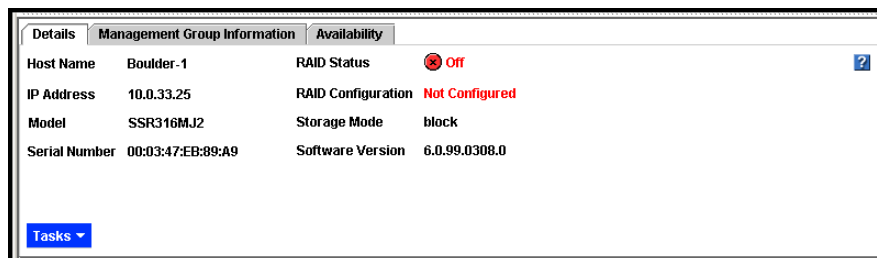

Figure 18. Icon Showing RAID is Off
- If RAID is **off**, a red circle displays in the SSM configuration details tab, as shown in Figure 18. For information about turning RAID on, see “Starting RAID” on page 74.